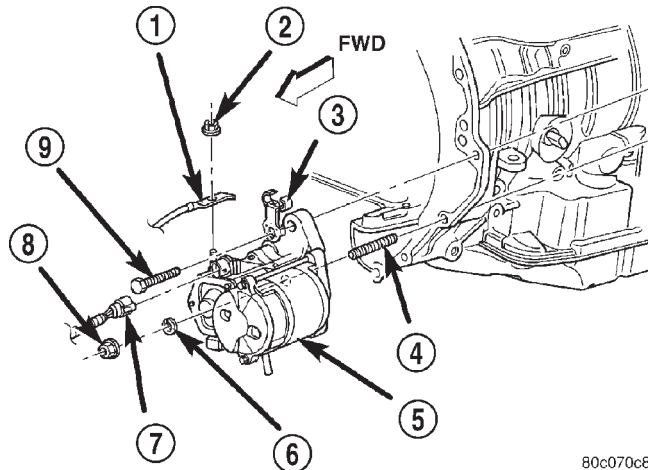

Fig. 13 Starter Motor Remove/Install - All 3.9L and 5.9L Engine, or 4.7L Engine with Manual Transmission Only
(1) Disconnect and isolate the battery negative cable.
(2) Raise and support the vehicle.
(3) Remove the nut and the lock washer that secures the lower mounting flange of the starter motor to the stud on the manual transmission clutch housing or the automatic transmission torque converter housing (Fig. 13).
(4) While supporting the starter motor with one hand, use the other hand to remove the screw and washer that secures the upper mounting flange of the starter motor to the manual transmission clutch housing or the automatic transmission torque converter housing.
(5) If the vehicle is equipped with an automatic transmission, slide the automatic transmission cooler tube bracket forward on the tubes far enough for the starter motor mounting flange to be removed from the lower mounting stud.
(6) Lower the starter motor from the front of the manual transmission clutch housing or the automatic transmission torque converter housing far enough to access and remove the nut that secures the battery positive cable eyelet terminal to the starter solenoid B(+) terminal stud. Always support the starter motor during this process. Do not let the starter motor hang from the wire harness.
(7) Remove the battery positive cable eyelet terminal from the solenoid B(+) terminal stud. Always support the starter motor during this process. Do not let the starter motor hang from the wire harness.